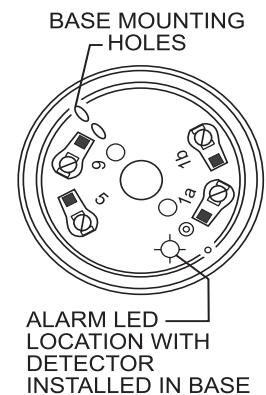

Figure 2
- Place the detector so that the ALARM LED is normally visible by positioning the LED mark in the base in the necessary direction. (See Figure 2.)